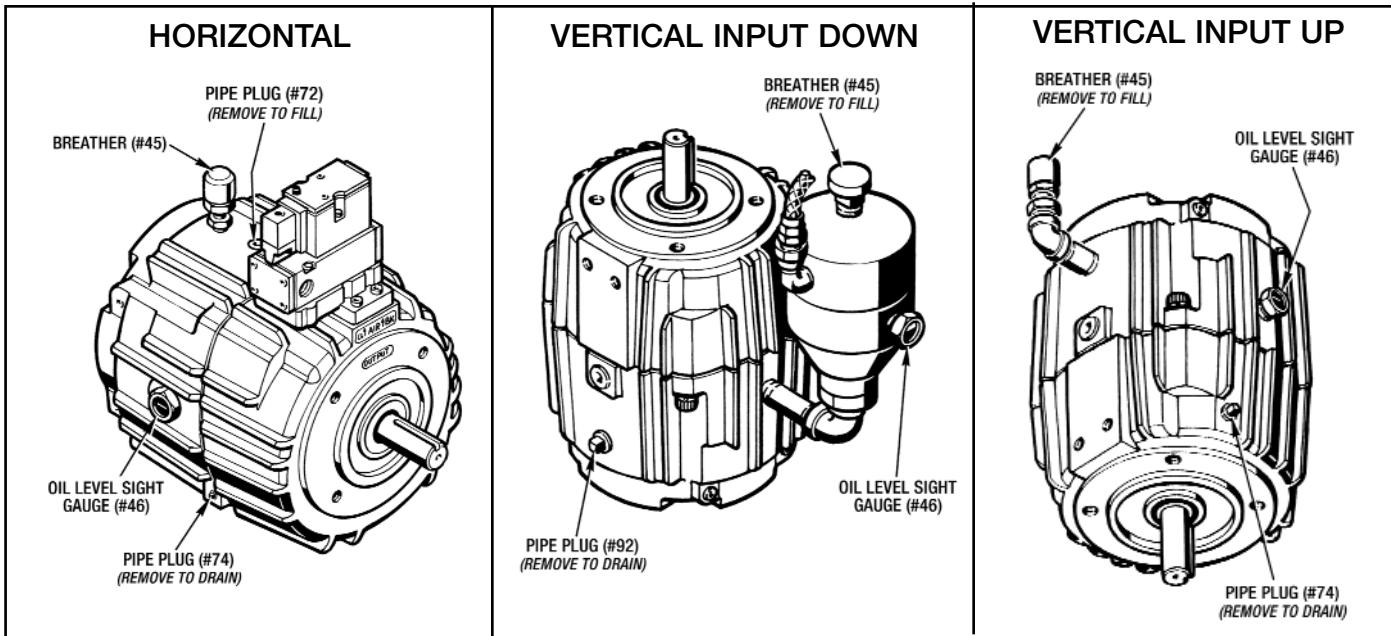

Figure 5 - Lubrication
A. CHECKING THE OIL LEVEL (See Figure 5)
B. CHANGING THE OIL (See Figure 5)